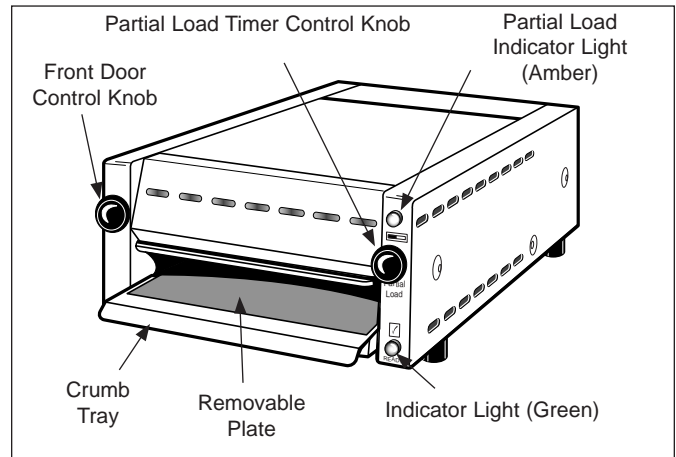

Figure 1. Muffin Toaster MT-12
7. Close the front door, press and release the Partial Load Control Knob on the right front of the toaster until the Amber light is lit (Figure 1). Start the stopwatch.